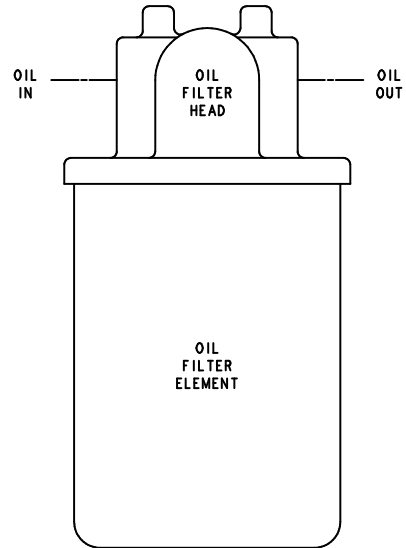

FIGURE 5-7 – COMPRESSOR OIL FILTER
**COMPRESSOR OIL FILTER** (FIGURE 5-7) – This screw on oil filter is a vital part in maintaining a trouble-free compressor, since it removes dirt and abrasives from the circulated oil. The oil filter relief valve is located in the oil filter head. The relief valve opens in the event the element becomes dirty enough to block the flow of oil.